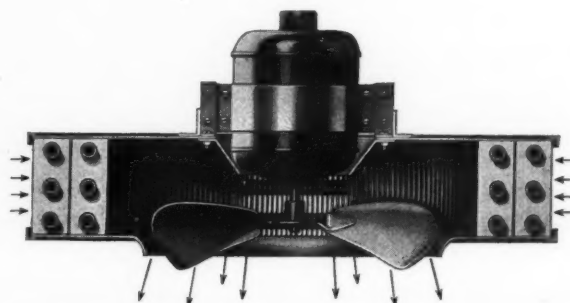
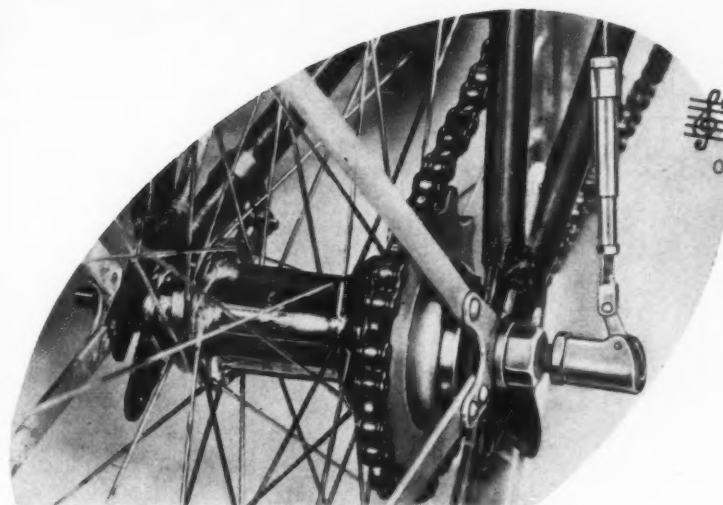
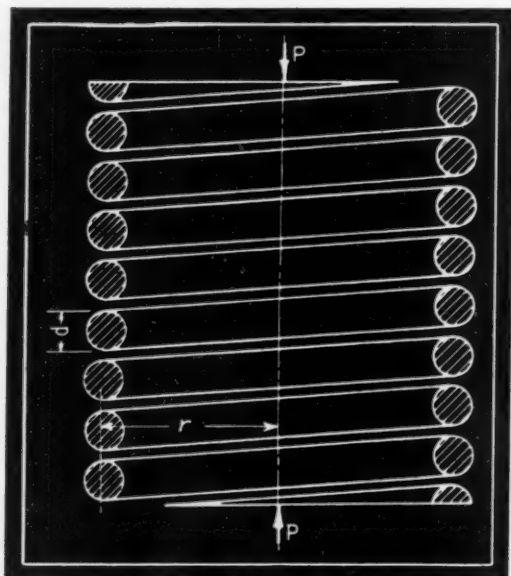

Fig. 2—Unit heater is designed to project a cone of warm air to the working zone near the floor
Fig. 1—Two-speed coaster brake in action, with cable control set for low gear
Fig. 1 (Above)—Round wire helical spring of large index, axially loaded
Fig. 2—Left—Scraper utilizes flexible steel-encased cables to control the valves from operator's position. Fig. 3—Center—Handwheels and worm-actuated levers control mixing blades
Improved loading characteristics are obtained in "Carrimor" scrapers built by LaPlant Choate Mfg. Co., Cedar Rapids, Ia., by using a bell-shaped bowl instead of a straight-sided bowl. The 16-yard model, Fig. 2, employs a number of hydraulic cylinders to operate pan, rear push gate and front apron. Multiplicity of hydraulic lines to the control station on the
FOLLOWING principles comparable to the diffusion of light from direct reflecting lighting fixtures on the ceiling, a space heater of projection type has been developed by the Trane Co. One of these units, sectioned to reveal its mechanism and internal design appears as *Fig. 2* at the top of this column.
To improve their capabilities in both directions, engineers of the New Departure Division, General Motors Corp., have developed the two-speed coaster brake shown in Figs. 1 and 2. Through a simple and compact planetary gear system, a hill-climbing ratio 20 per cent below that of the ordinary bicycle is made available, along with an over-speed ratio 17 per cent above the normal. As shown diagrammatically by Fig. 2, the brake elements essentially are of standard type, the two-speed mechanism being confined mainly to an extension of the driver.
the low ratio or hill-climbing position, for which the brake in Fig. 1 is set. When this same sliding gear is moved to the right—as in Fig. 2—it locks to a cone ball race immovably fixed to the axle. In this position the planet pinions travel around the center gear and the driver—which has an internal gear—is driven at a speed faster than the sprocket. This gives the "over-drive" so desirable on smooth, level roads.
Fig. 2—Cross section of two-speed brake at its axis, revealing compact arrangement of planetary gears and their control at driving (right) end. High gear setting is shown in this drawing
Tests carried out² by measuring the deflection of the coils in helical springs of large and of small index (ratio of mean coil diameter to wire diameter) have shown that equation (2) is very close to the truth for calculating spring deflections. On the other hand, equation (1), while fairly accurate for calculating stress in springs of large index (Fig. 1), may be shown to be considerably in error³ when used for a spring like that in Fig. 2, which has an index of three. This value of spring index is about as small
Fig. 2 (Left) — Helical spring of small index, axially loaded. Index, or ratio of mean coil diameter to wire diameter, of this spring is about minimum employed for normal conditions